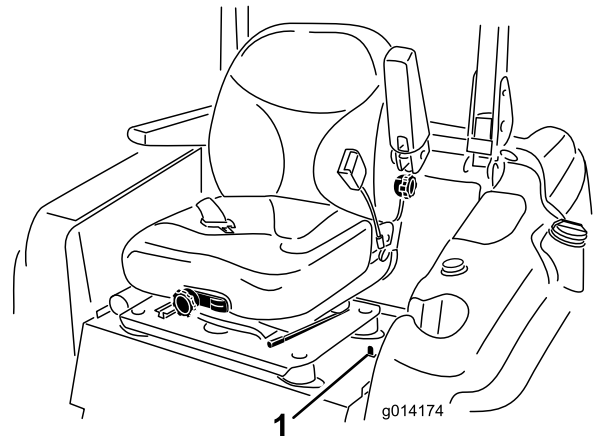

Figure 25
- Move the seat latch, located on the left side of the seat, rearward to unlatch the seat and pull forward on the top of the seat (Figure 25).